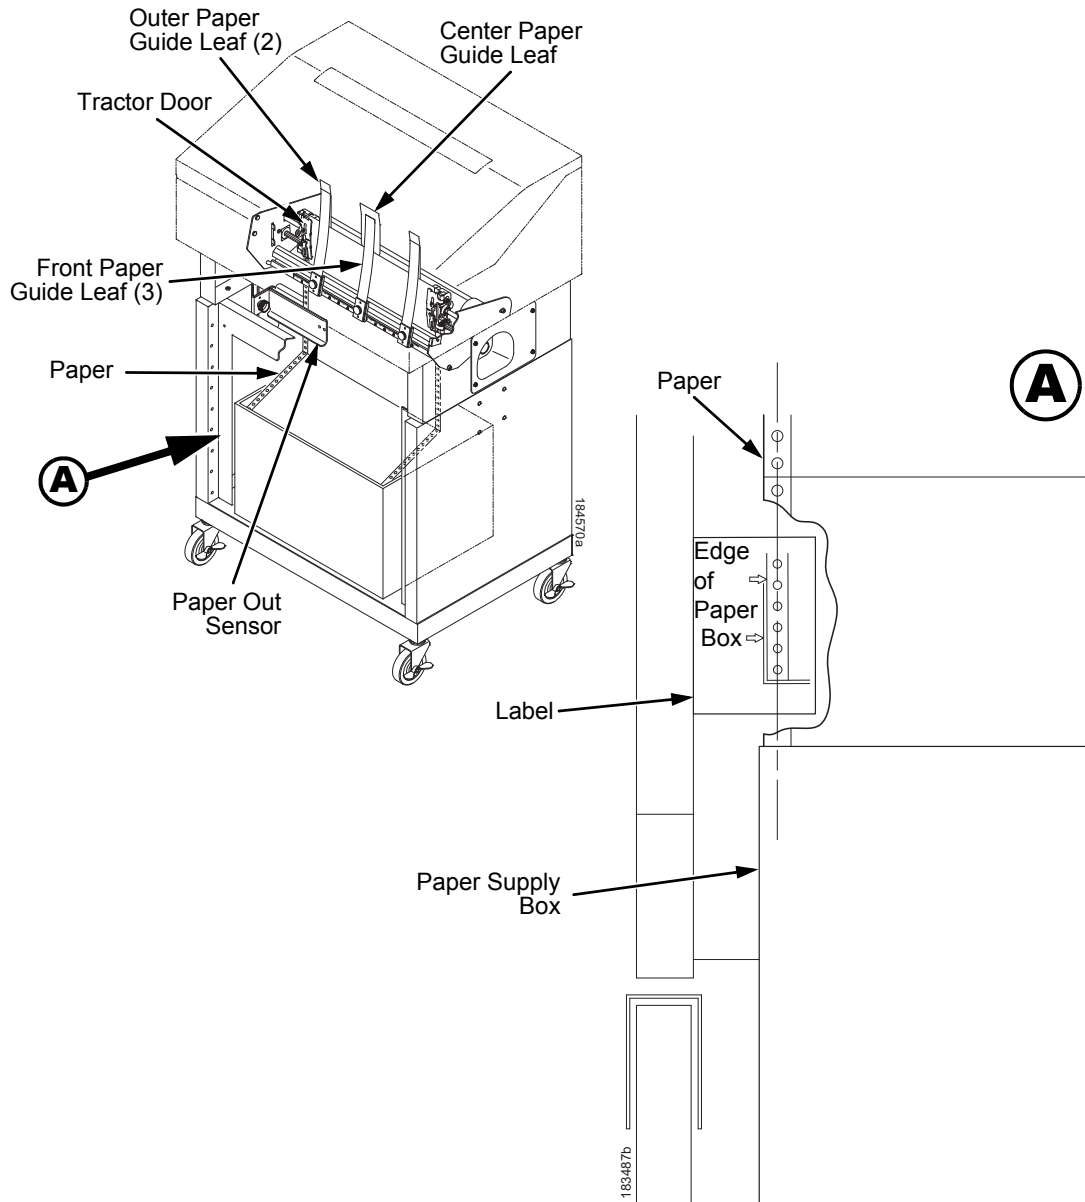
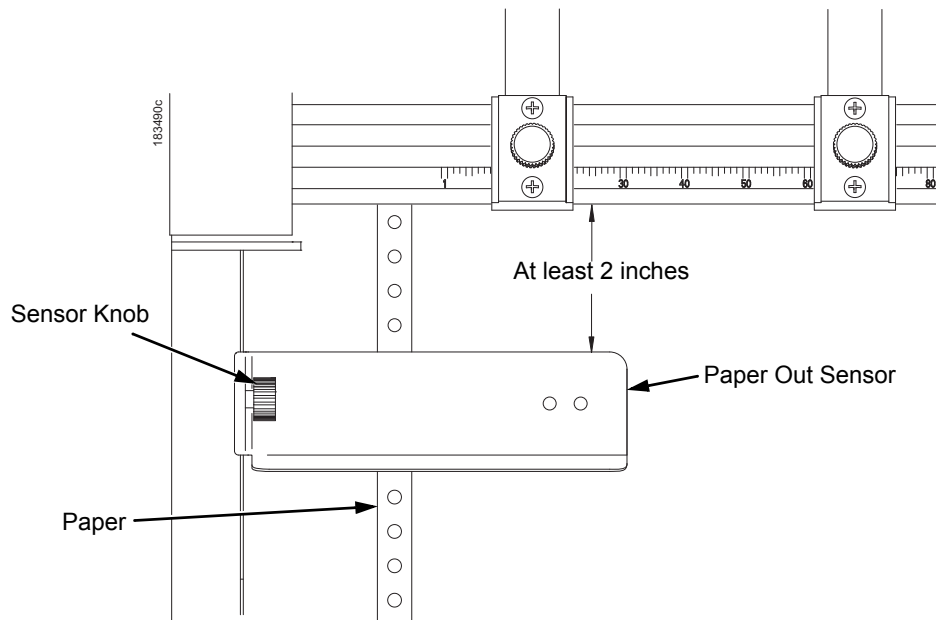

Figure 56. Loading Paper onto the Printer
Figure 59. The Paper Out Sensor
1. Align the paper supply box with the label on the left side of the floor. (See Figure 56 on page 352.)
The paper out sensor indicates when the printer runs out of paper. (The sensor does not work with black backed forms.) Unlike the standard pedestal printer, the ZT printer requires you to load the paper through the paper out sensor slot (Figure 56 and Figure 59). Correct positioning of the paper out sensor ensures that the last form the printer prints will be properly presented to the tear bar. To position the paper out sensor, do the following: